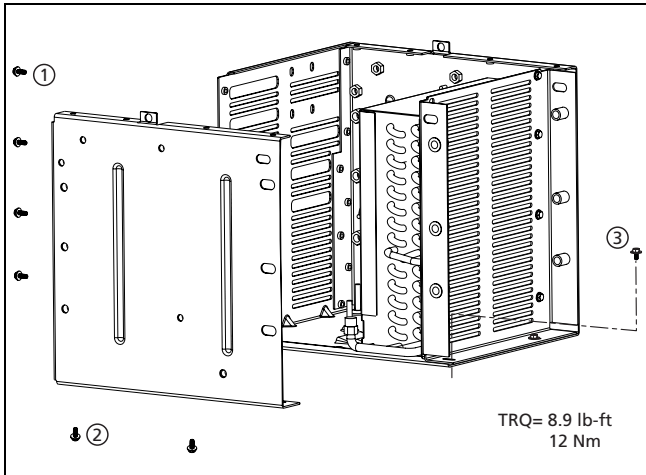

Figure 32. Side panel removal
3. Remove seven hex-bolts, four along the back panel (①), two under the side panel (②) and one at the lower corner of the condenser shroud (③). See Fig. 32.